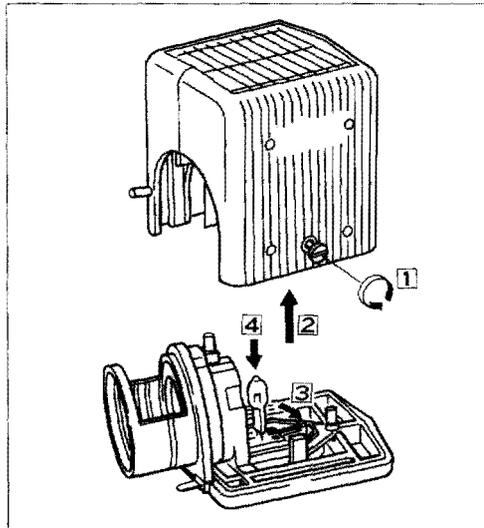

Fig. 2-4
- While pulling down the lamp clamp lever **3**, firmly insert the lamp into the socket pin holes until it reaches the limit **4** (Fig. 2-4).